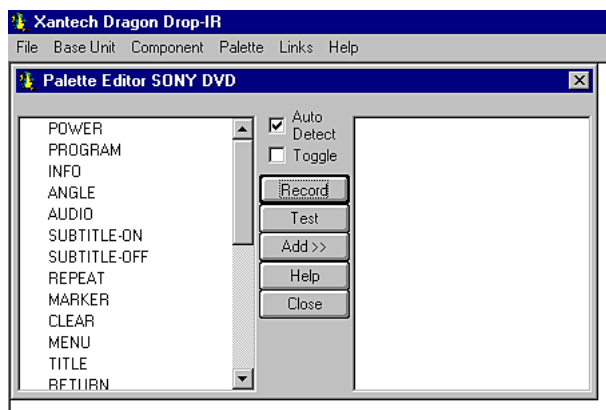

Figure 4 - Palette Editor
4. The Palette Editor will now be open to the "Brand" & "Component" selected. A list of FUNCTIONS for that type of component will appear as shown in **Figure 4**. (See later sections for adding functions).